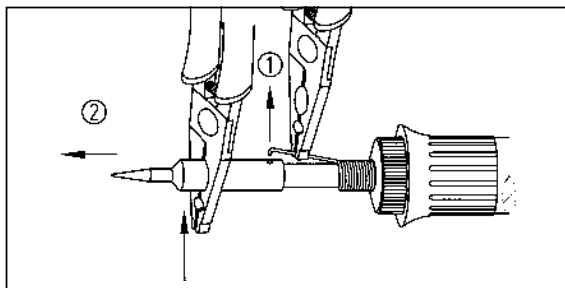

Figure 7
- Lift spring hook out of tip hole (pos. 1/fig. 7) and pull off the tip using the flat-nosed pliers (pos. 2/fig. 7).